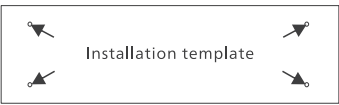

Figure 1
3. As shown in Figure 1, paste the installation template at marked location at ceiling, then use a marker to mark out four holes.